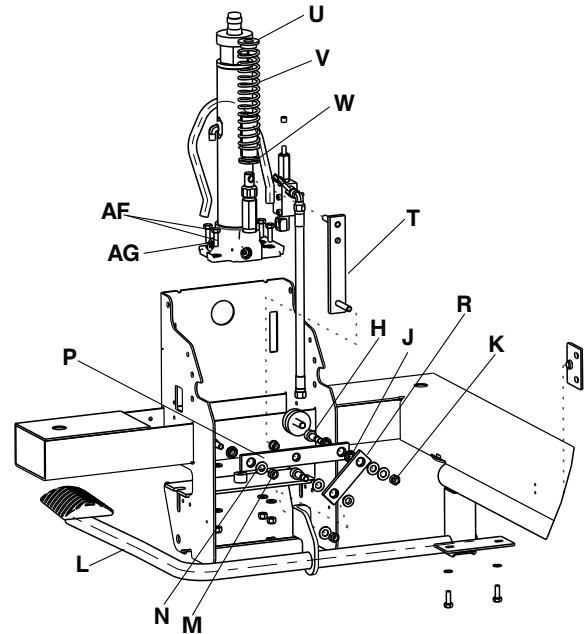

Figure 4 – Assembly jack on base
- Using a 1/2" wrench and a 3/16" hex wrench, remove the shoulder screws (H), washers (J), and Nylock nuts (K) that secure the link (R) to the pump bar weldment (L) (Figure 4).
- Using a spring compression tool, compress the spring (V).
- Using a 1/2" wrench, remove the Nylock nut (M) and the washer (N) from the base stud to remove the horizontal pump link (P) and the swing pump link (R).
- With the spring compression tool still in place, remove the pump link weldment (T).